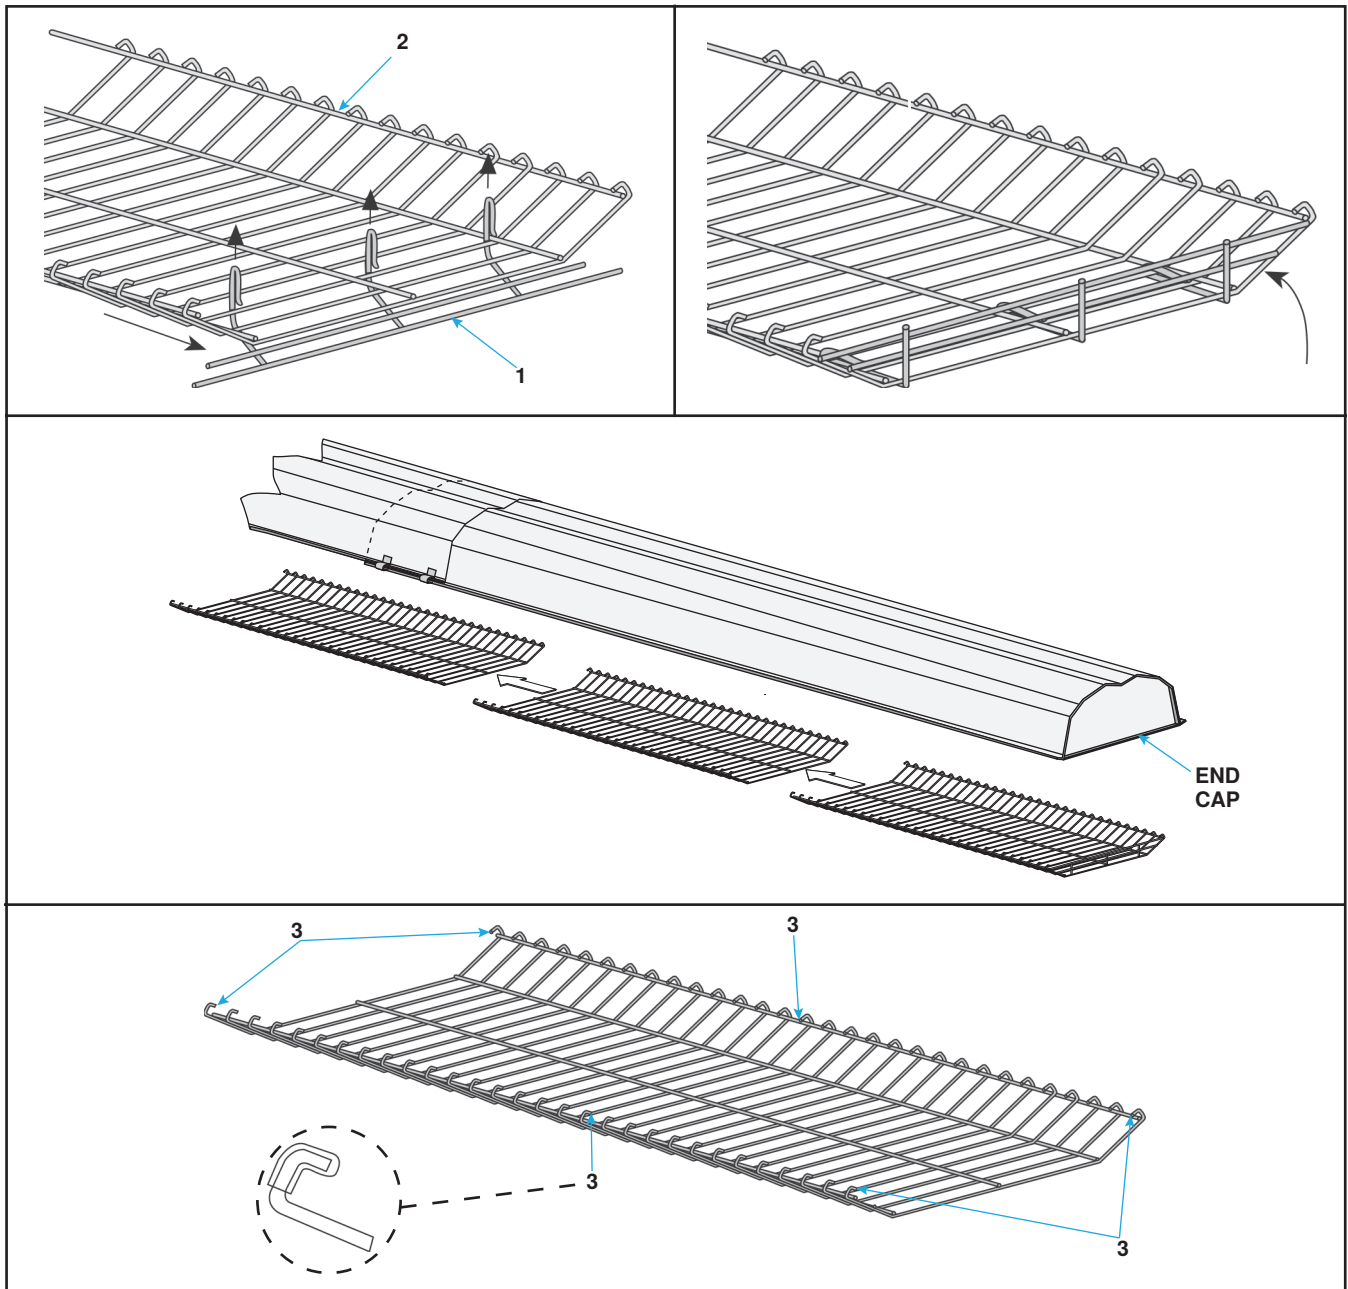

Figure 1. Protective Grille Kit Installation
1. Install protective grille's end section (1) on grille section (2) that will be installed at reflector's end cap as shown in Figure 1. Pull end section snug, and bend it up at 90-degree angle.
2. Position grille section (2) on bottom of reflector and secure grille to reflector using six silicone reflector clips (3) installed as shown in Figure 1.
3. Install remaining grille section(s) in accordance with step 2. Ensure that grille section with end section is installed on reflector with end cap as shown in Figure 1.